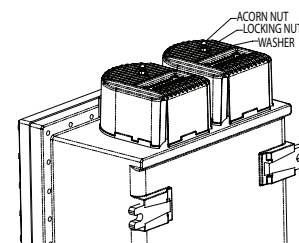

Figure 3
- Insert washer and nuts onto end of threaded rod and tighten securely until shroud is firmly contacting the top wall of the enclosure. See Figure 3.